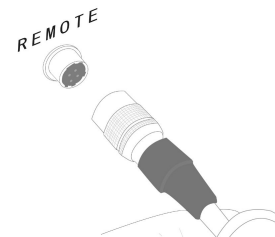

Fig.1 BNC connector of Footswitch
4. Connect the foot switch C200 to the connector on the front of the unit (Refer to Fig. 1)